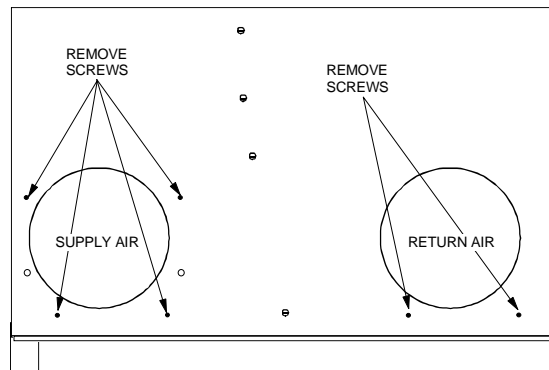

Figure 7
1. Remove and set aside the four supply air side screws (Figure 7).